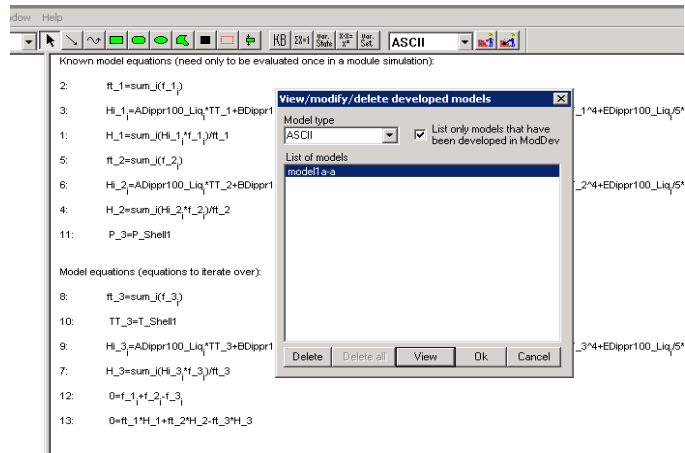

Figure 12: View/delete/modify developed models
Step 3: The generated model can be viewed through the "view/delete/modify developed models" tool as shown in figure 12.